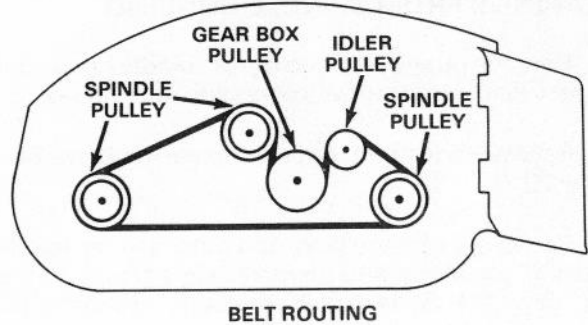

Figure 19
4. Install new belt around spindle pulleys, gearbox pulley, and idler pulley (Fig. 19).